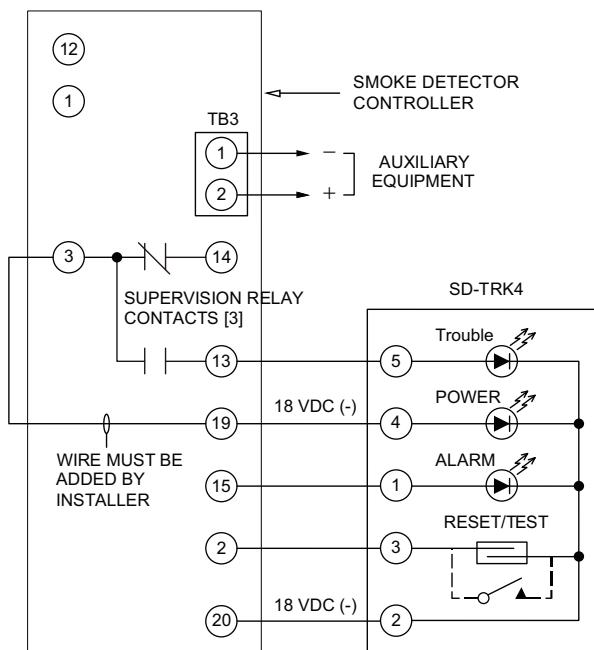

Fig. 24 — Remote Test/Reset Station Connections
The test/reset station dirty sensor test checks the test/reset station's ability to initiate a sensor dirty test and indicate the results. It must be wired to the controller as shown in Fig. 24 and configured to operate the controller's supervision relay. For more information, see "Changing the Dirty Sensor Test."
1. Verify that the remote test/station is wired as shown in Fig. 24. Repair or replace loose or missing wiring.